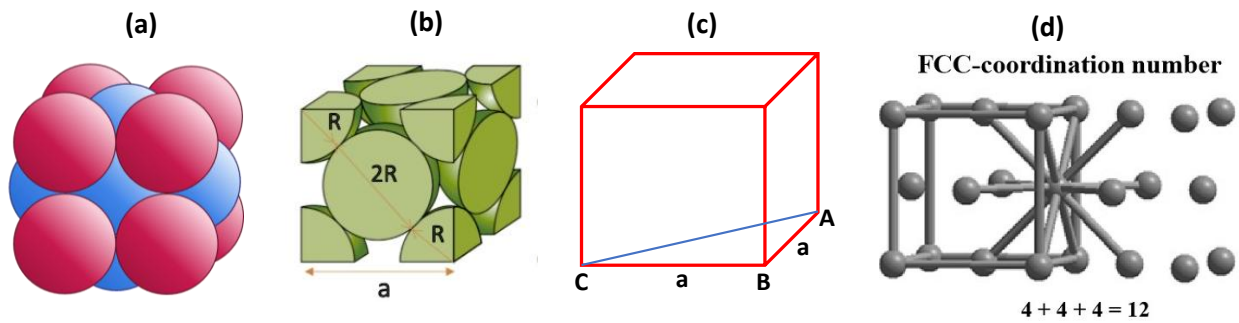

Figure 1.10: (a, b) FCC crystal structure and (c) face diagonal of FCC system and (d) co-ordination number of FCC.
- One of the close packed structures is face centered cubic structure. The face centered cubic system has atoms located at the eight corners and the centers of all cubic faces, as shown in figure 1.10 (a).
Calculation: If two diagonal atoms on the bottom faces are joined as shown in Fig. 1.10 (c).